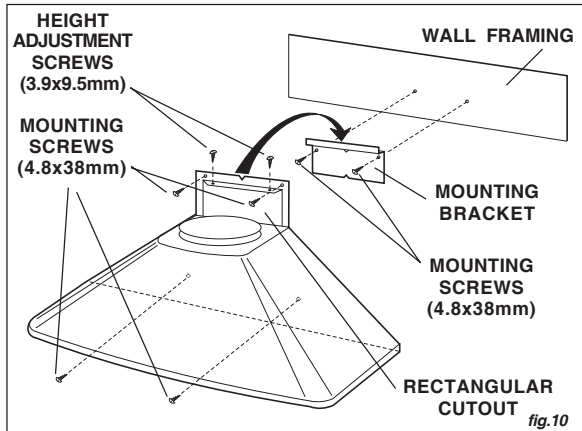

fig.10
- Align the rectangular opening on the back of the hood with the wall-mounting bracket. Gently lower the hood until it securely engages the bracket. Fig.10
Secure with (2) mounting screws (4.8x38mm). Use drywall anchors provided if wall studs or framing are not available. Fig.10